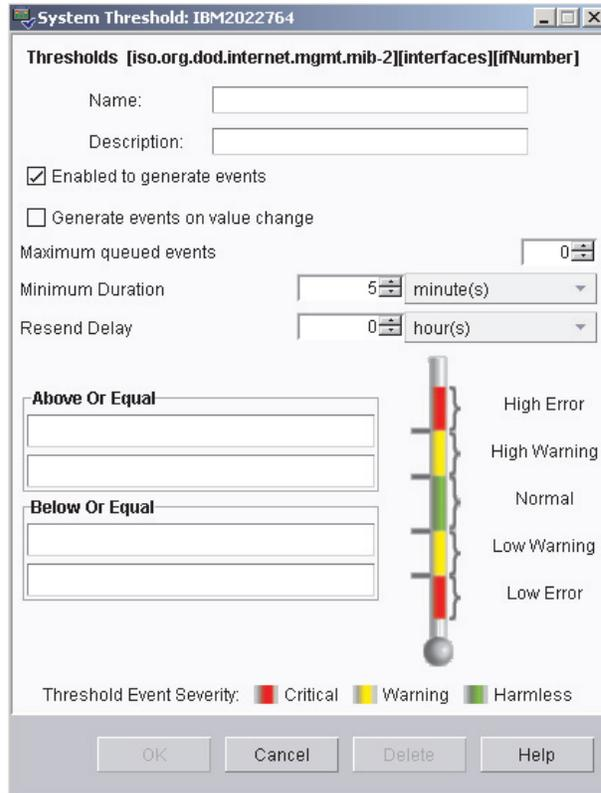
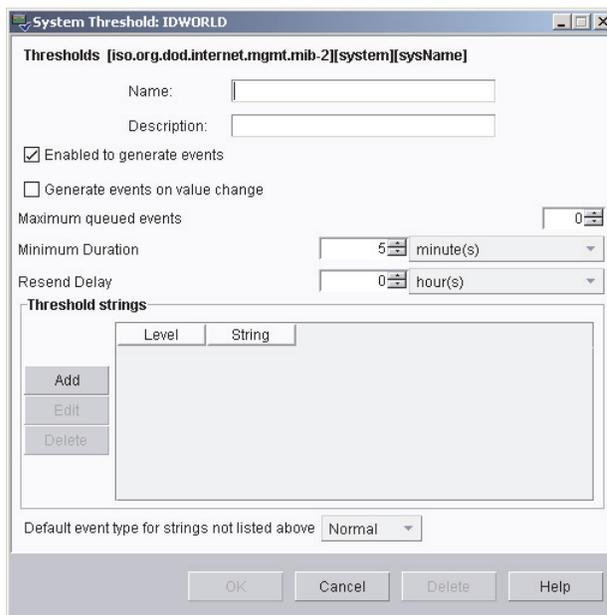

Figure 81. “System Threshold” window for setting numeric thresholds
Figure 82. “System Threshold” window for setting text-string thresholds
3. In the Selected Resources pane, right-click the resource attribute that you want to monitor; then, click **Individual Threshold** if you dropped the Resource Monitors task onto an individual managed system or device. Or, click **Group Threshold** if you dropped the Resource Monitors task onto a group. The “System Threshold” window opens, and depending on whether the resource-monitor threshold is numeric (Figure 81 on page 130) or a text string (Figure 82 on page 130), you see the applicable window.